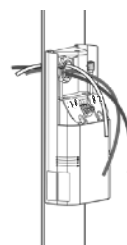

Fig 4
3. Route wires through knockout and into mounting bracket. *Fig 4.*